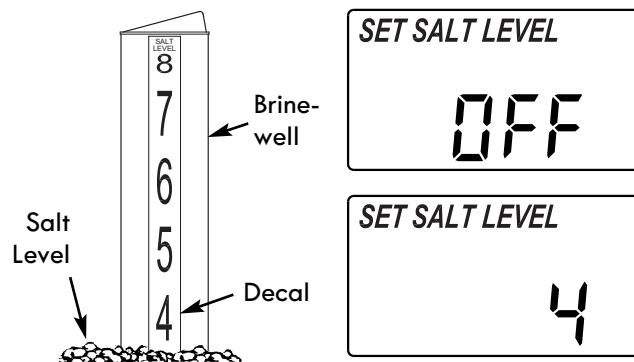

Figure 20
2. The yellow salt level decal, on the brine well inside the tank, has numbers from 0 to 8 (see Fig. 20). Observe the highest number the leveled salt is at, or closest to.